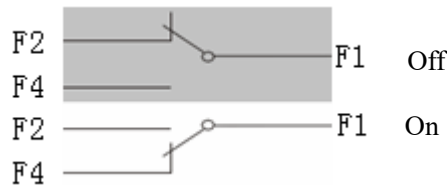

Fig. 2
11.1 Rated value of the auxiliary contact (see Table 8, Fig. 2)